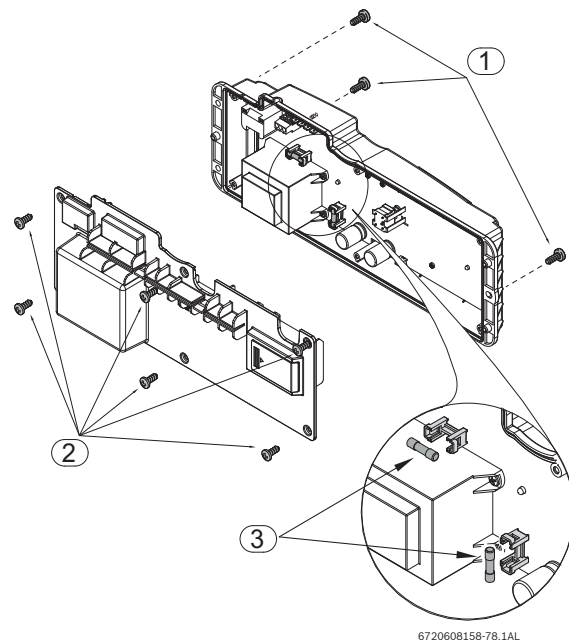

Fig. 37 Location of fuses
- Pull control unit free to access and remove the six screws from the back cover of the control unit, see Fig. 37, pos. 2.
- Check the fuses in the printed circuit board, see Fig. 37, pos. 3.